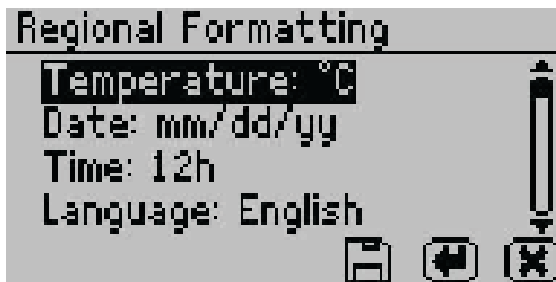

Figure 37 Regional Formatting option
- **Regional Formatting.** Select to configure how the AQUALAB 4 displays information. Choose the temperature scale (Celsius or Fahrenheit), the date display (mm/dd/yy or dd/mm/yy), the hour format (12h or 24h), and the language (Figure 37).